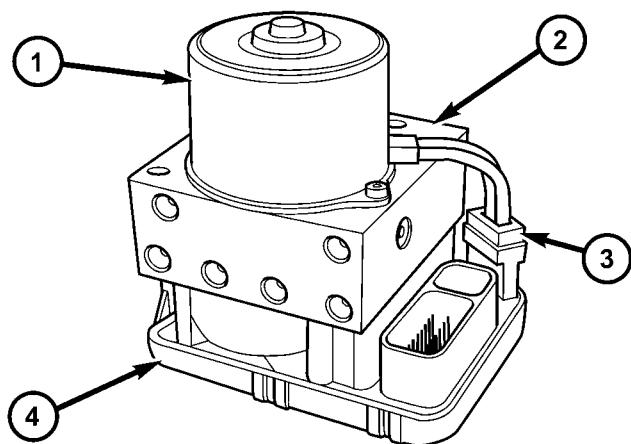

Fig. 19 Integrated Control Unit (ICU)
(1) Remove the ICU from the vehicle. Refer to REMOVAL.
(2) Disconnect the pump/motor wiring harness from the CAB (Fig. 19).
(3) Plug the pump/motor wiring harness into the CAB (Fig. 19).
(4) Install the ICU in the vehicle. (Refer to 5 - BRAKES - ABS/HYDRAULIC/MECHANICAL/ICU